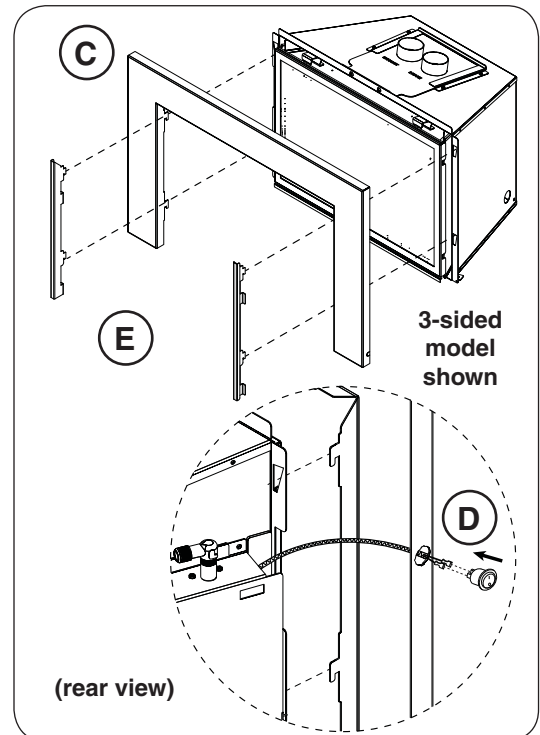

Fig. 35-3 Install surround, switch, side trims
2. The rear of the surround has 4 hooks. Insert the hooks into the four slots found on the front of the unit. Ensure the surround firmly rests down in place. See Fig. 35-3, "C".
Note: The ON/OFF switch on the unit must be installed during the installation of the surround. Disconnect the switch from its wires, route the wires through the hole found on the left side-panel of the surround, reconnect the wires, and snap the switch into place. See Fig. 35-3, "D".
3. Similar to the surround, the left and right side trims have hooks. Insert the trim hooks into the same slots that the surround now rests in. Ensure the side trims firmly rest down in place. See Fig. 35-3, "E".